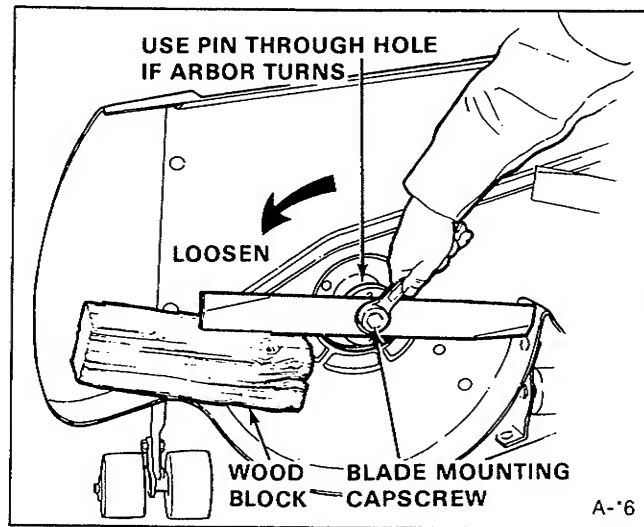

Figure 19. Removing Blade
4. To remove the blade for sharpening, use a wooden block to hold blade while removing the cap screw (figure 19). Position the wrench as shown so that your hand will not fall onto the blade cutting edge if wrench slippage occurs.